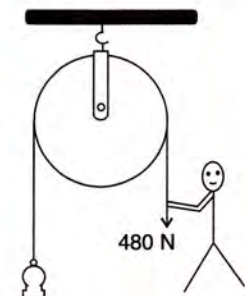

Fig. 3.27
1. The adjacent Fig. 3.27 shows a fixed pulley used by a boy to lift a load of 400 N through a vertical height of 5 m in 10 s. The effort applied by the boy on the other end of the rope is 480 N.